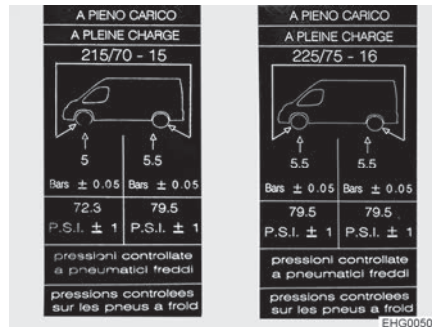

Fig. 178 Tyre pressure information sticker on B column (example)
- ▷ Information stickers with the required tyre pressure are attached to the inside of the B column (see Fig. 178).